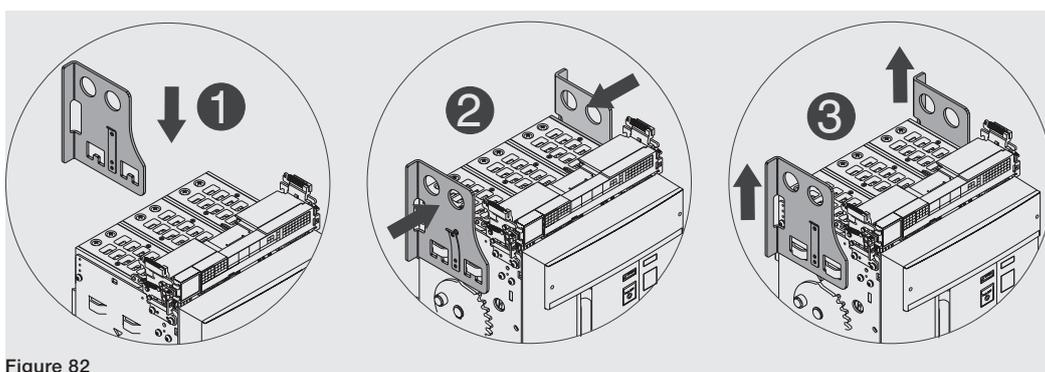

Figure 82
2. Position the lifting plates on the mobile part making sure that the tongue of the plates is latched properly. See Figure 82.